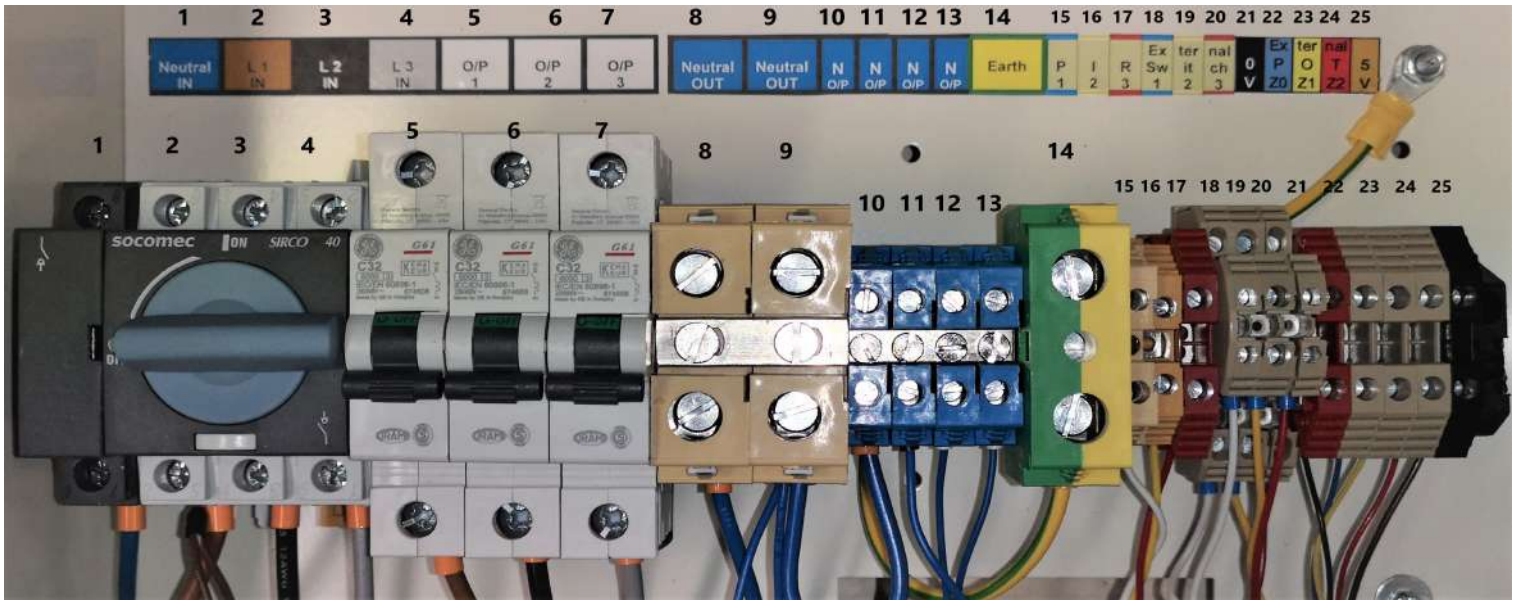

Fig 5
- 3) Connect the Mains IN as follows, Neutral blue wire to terminal #1 – **Neutral IN**, Live **Brown** wire to terminal #2 – **L1 IN**, Live **Black** wire to terminal #3 – **L2 IN**, Live **Grey** wire to terminal #4 – **L3 IN** see fig 5.